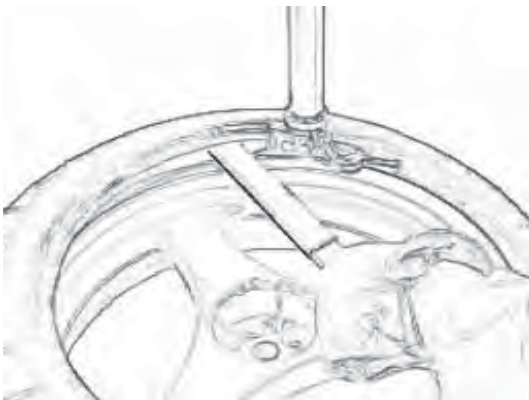

Fig. 4.3-1b
**E.** As the turntable is turning use the tire tool in your left hand to raise and guide the tire bead onto the bead head (Fig. 4.3-1b).